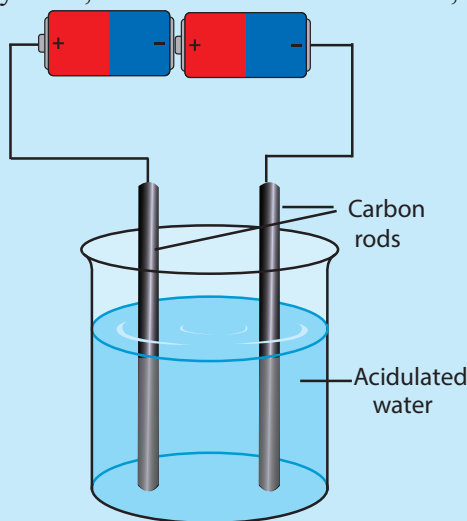

Figure 10.40 ▲
- Then, dip the carbon rods in the beaker of acidulated water, as shown in Figure 10.40.